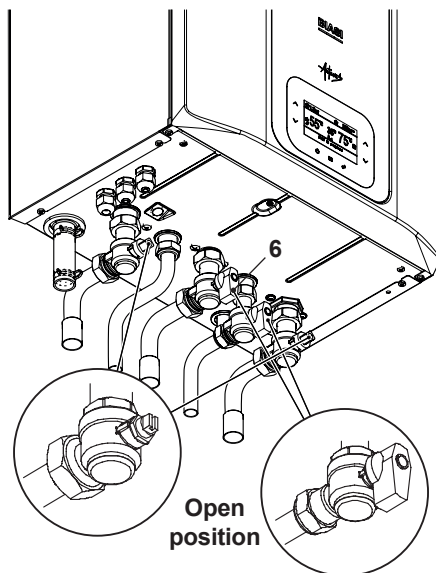

Fig. 7.1
- Open the gas cock 6 (Fig. 7.1) on the appliance and check the gas connector on the appliance for leaks.
- Open the valves located in the lower part of the boiler (Fig. 7.1).